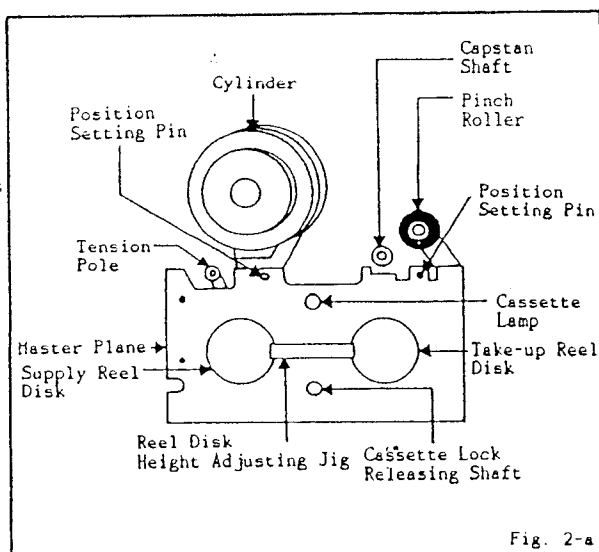

Fig. 2-a
1. Set the master plane (JG022) at mechanism framework, taking care not to scratch the drum, as shown in Fig. 2-a.
2. Confirm that the master plane sits between "A" and "B", as shown in Fig. 2-b, using the reel table height chip (JG024). In case it is beyond the range of set-up value, adjust the height adjusting washer so that it is less than 0.1~0.5mm.